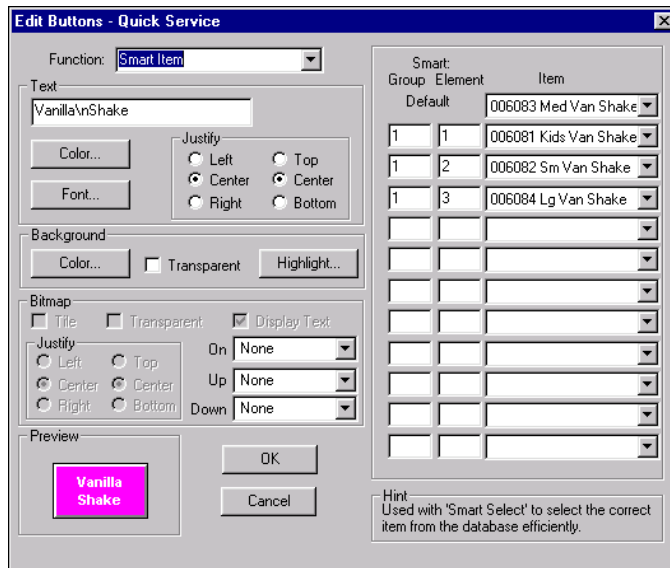

Figure 5-113 Smart Item Button Function
1. Select **Smart Item** from the **Functions** drop-down list. Additional options display, as shown in Figure 5-113: